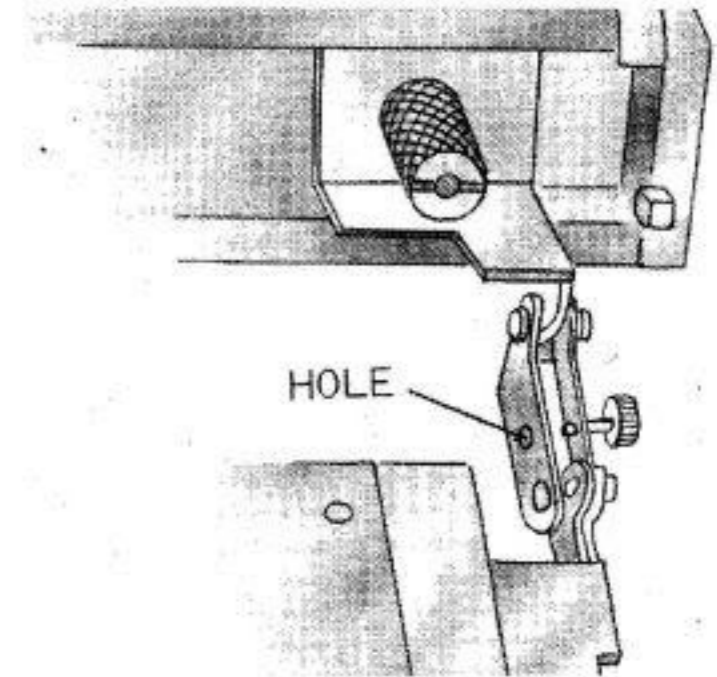
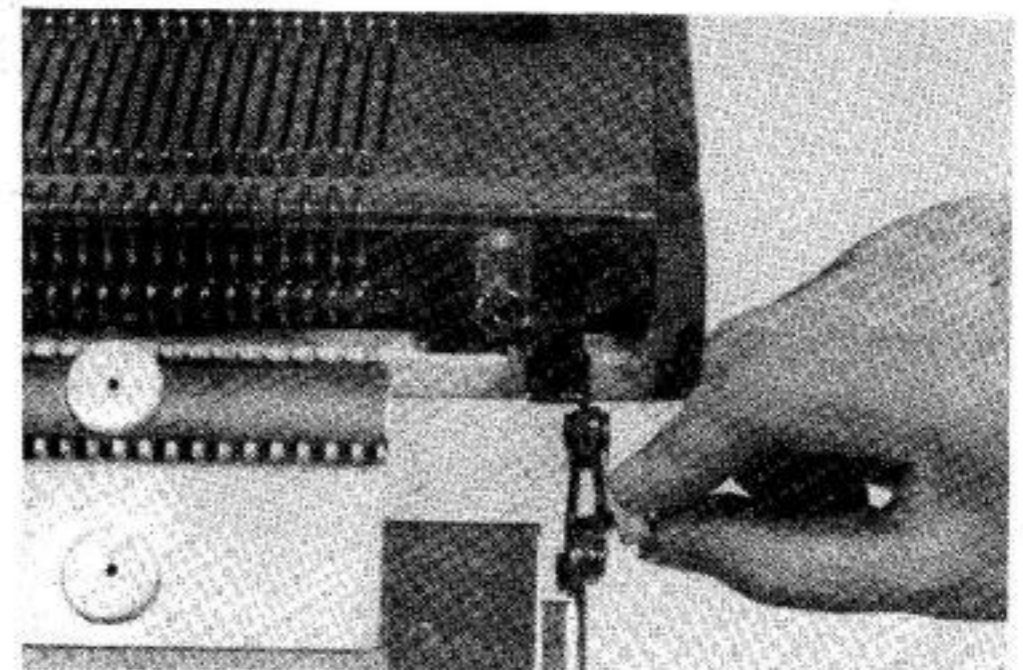

Fig. 5
Fig. 6
- (1) Lift the attachment slightly until the Locking Screws are in line with the holes in the inner arms of the Joints. (See Fig. 5) Lock in this position by tightening the Locking Screws until their ends pass through the holes in the inner arms of the Joints. (See Fig. 6)
- (2) In the centre of the machine, bring forward a few needles until their hooks just touch the plastic teeth of the V. P. K. units.